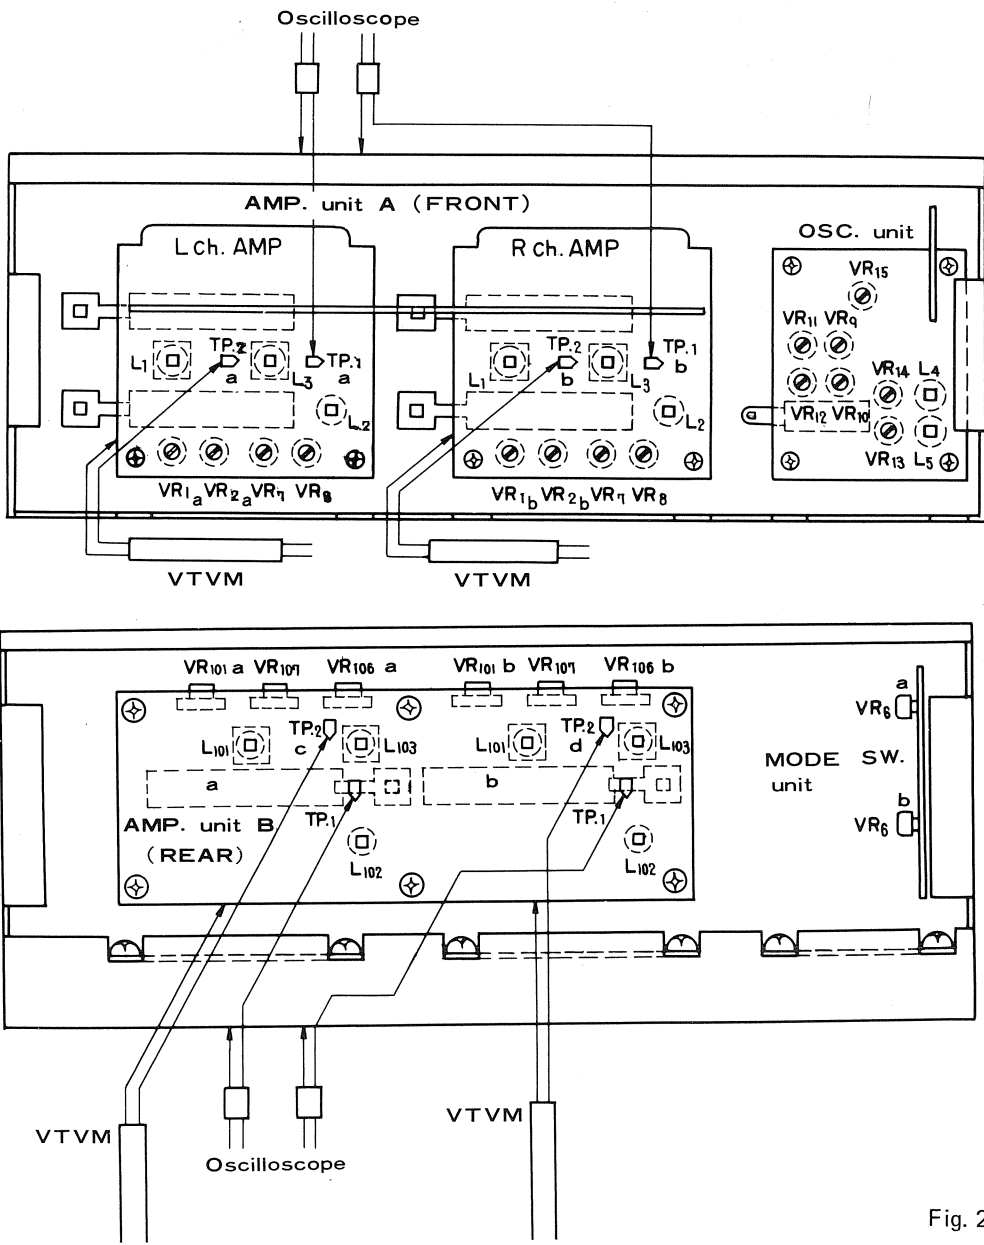

Fig. 27
- 1. Connect measuring instruments as shown in Fig. 27.
- 3. Amplitude at TP1 (Fig. 27) should be 3V or less. Adjust by L3 (front) and L103 (rear).